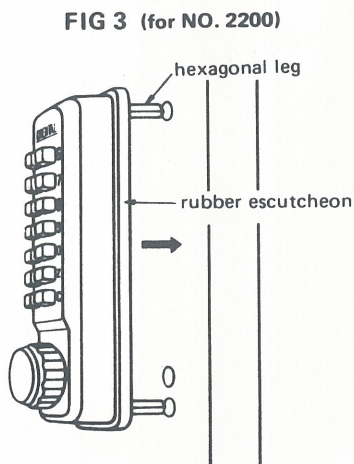
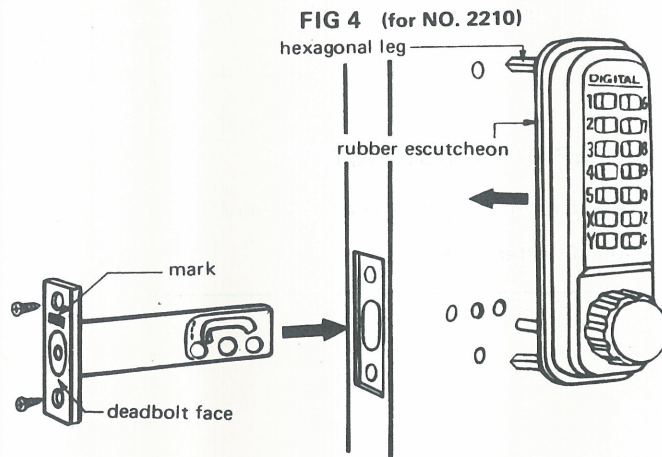

FIG 3 (for NO. 2200)
FIG 4 (for NO. 2210)
- After placing the Rubber Escutcheon to the back-side of outside body, insert 2 hexagonal legs of the outside body into the holes of upper and lower position on the door. (See Fig. 3 for NO. 2200 and Fig. 4 for No. 2210)